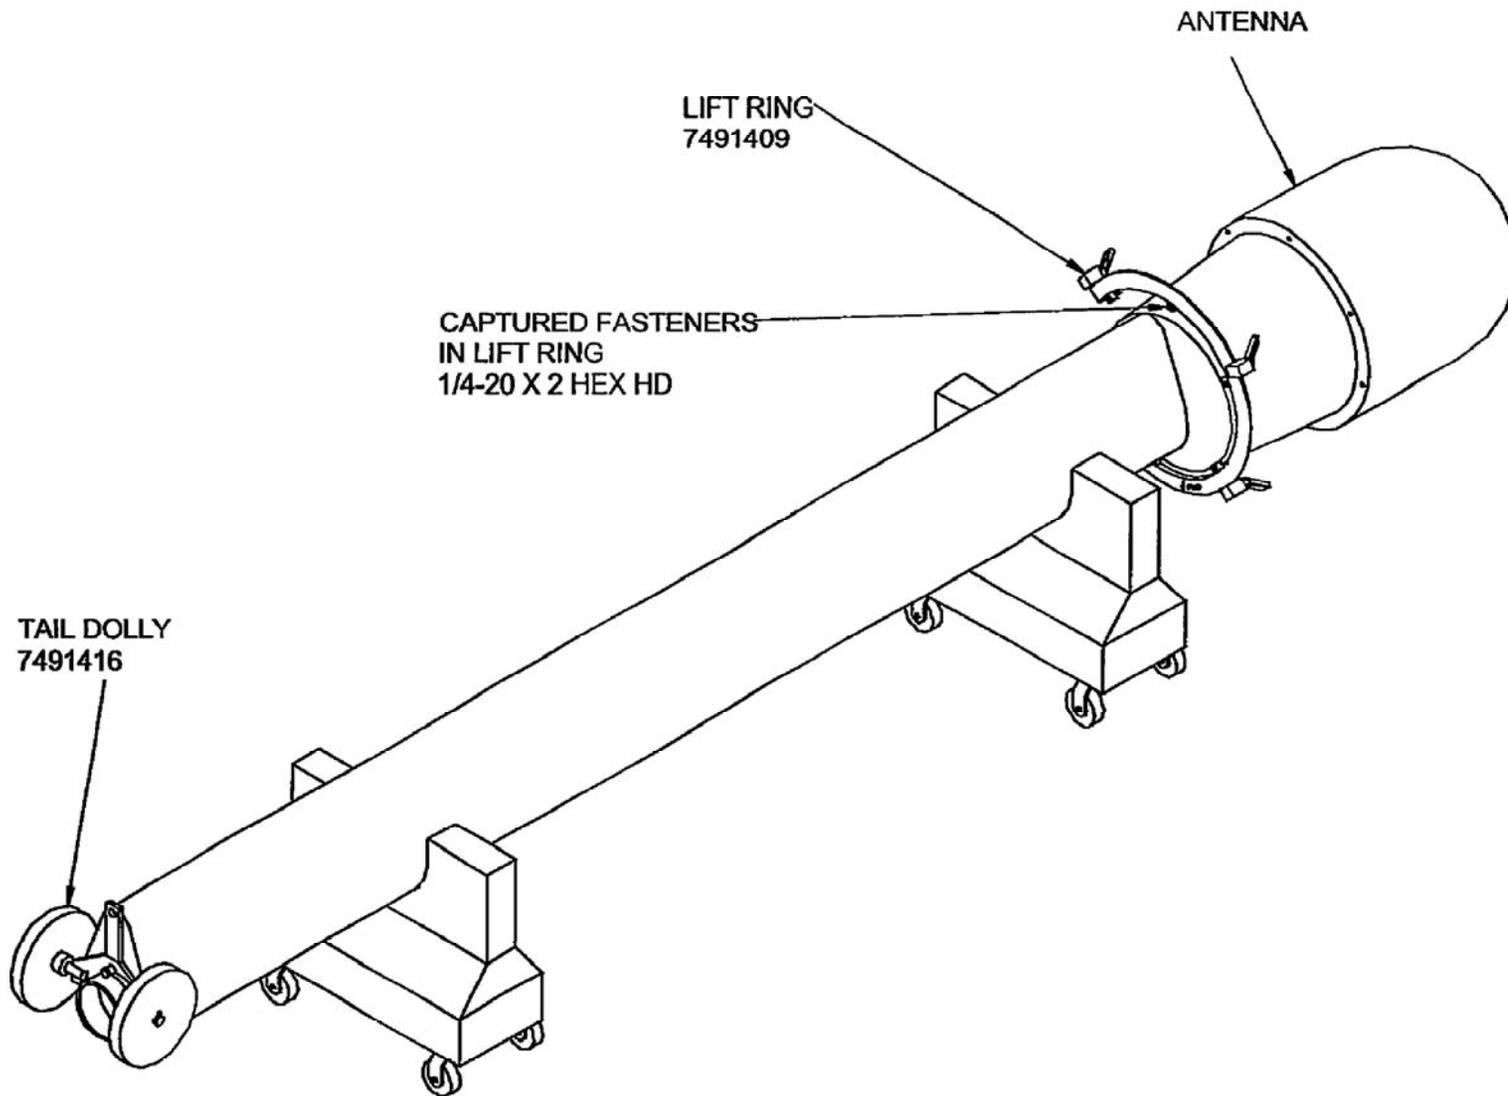

Figure 4-13 SUB HDR, ACM Antenna Installation of Lift Ring
4.11.2 INSTALLATION OF SUB HDR AND ACM ANTENNA LIFTING ASSEMBLY. This procedure is applicable to the antenna lifting assembly listed in Table 2-1 and in Reference \(y\). The method for installation of the antenna lifting assembly is given below and is illustrated in Figures 4-13 and 4-14.